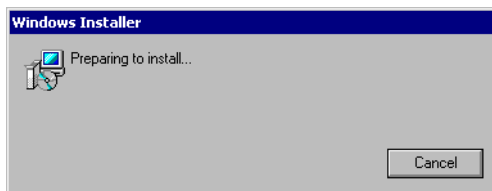

Figure 2-2. Launching the Windows Installer
5. Setup launches the Windows Installer (see Figure 2-2).